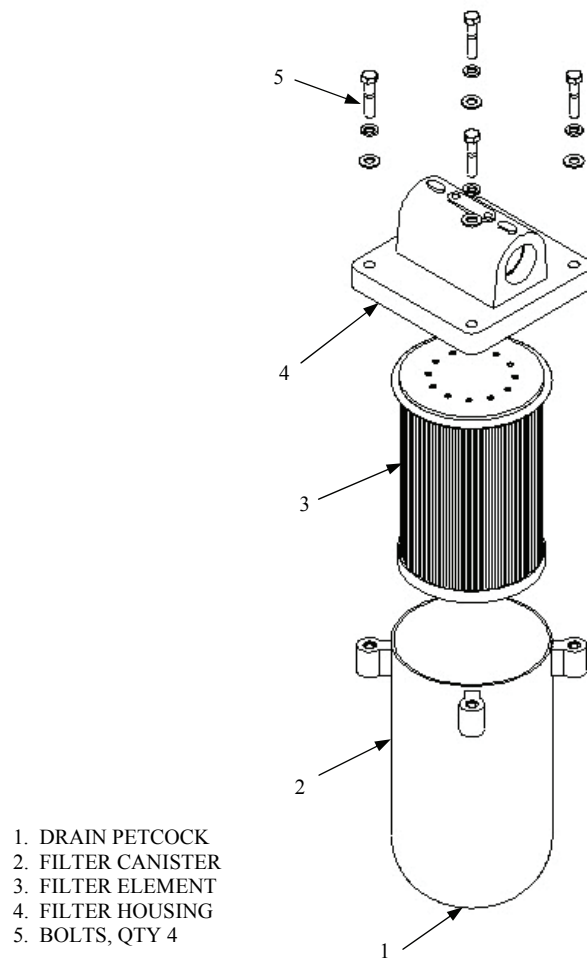

Figure 5-13. Fuel Filter
5.3.6.7 Fuel Filter Element. The fuel filter element should be replaced whenever fuel flow is restricted or at least once per year. The following steps describe how to replace the fuel filter. See Figure 5-13.